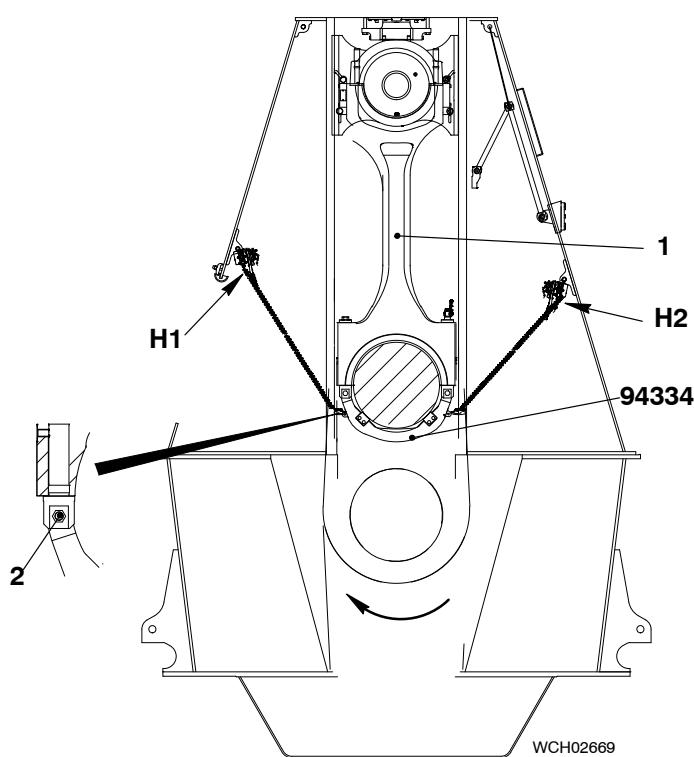
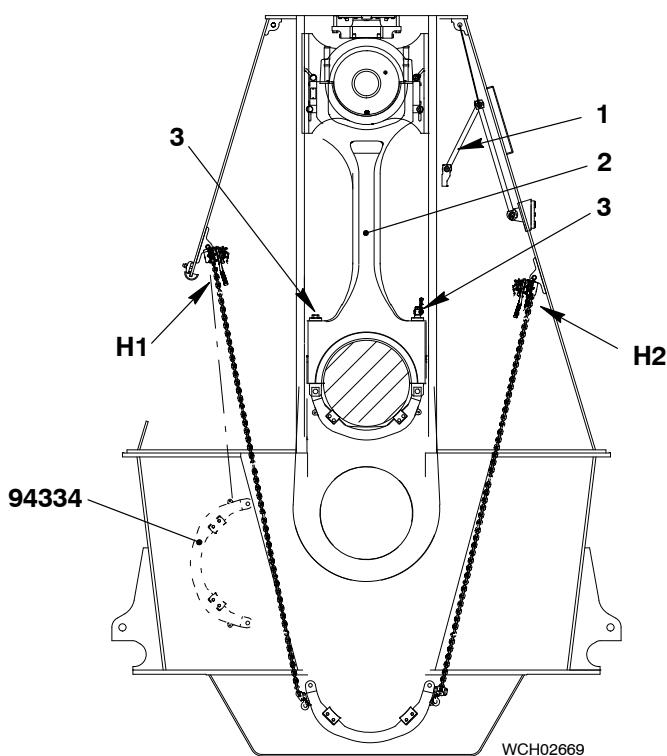

Fig. 19
Fig. 20
- 39) Use the turning gear to move the connecting rod (1, Fig. 19) clockwise to TDC.
- 42) Remove the two nuts and bolts (2) from the holder (94334).
- 43) Operate the manual ratchets (H1 and H2, Fig. 20) to lower the holder (94334).
- 46) Connect the toggle lever (1) to the connection piece on the connecting rod (2).
- 47) Remove the rods (3) from the connecting rod (2).